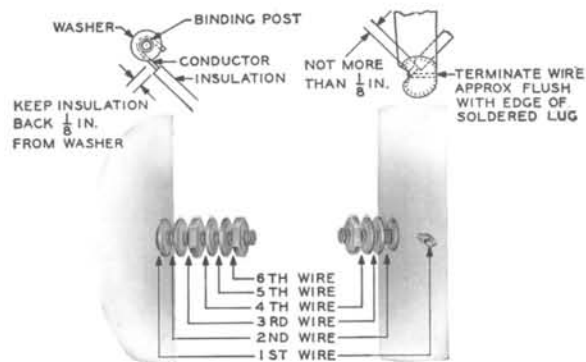

FIG. 7—SEQUENCE AND METHOD OF TERMINATION
4.06 When terminating inside wire or cable conductors on 30- or 31-type connecting blocks and the conductors are brought through the slots of the fiber fanning strip, only enough slack should be left to enable the conductor to be reterminated in case of breakage at the time of termination (see Fig. 7).